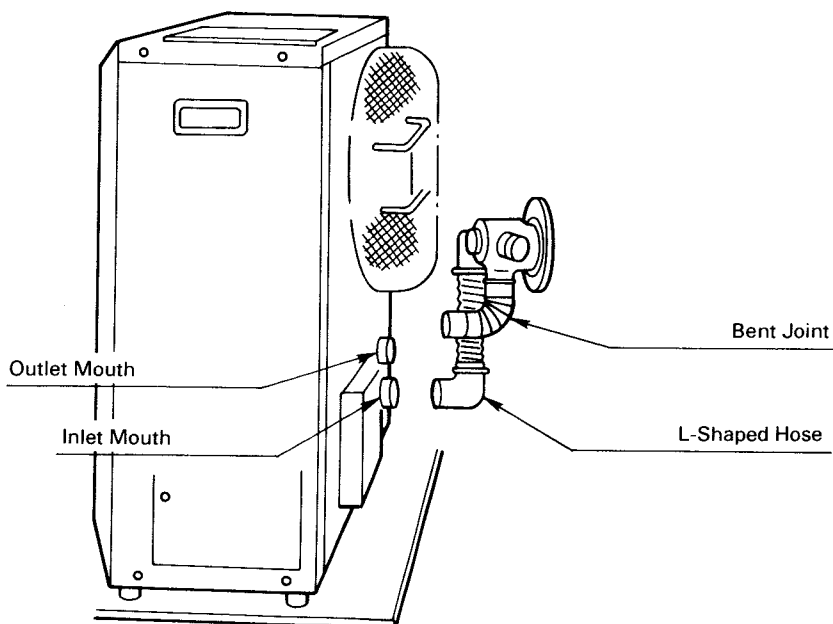

Fig. 14
10. Move the heater into position. Connect the bent joint to the exhaust outlet mouth (upper opening) and attach the L-shaped hose to the intake inlet mouth. Make sure all connections are tight (See Fig. 14).
12. Make sure the position of the heater is level by using the plumb bob located at the right side of the heater. The plumb bob weight should be within the red circle. If the plumb bob weight is not within the red circle, adjust the heater legs until the plumb bob weight is within the red circle (See Fig. 14 & 15).